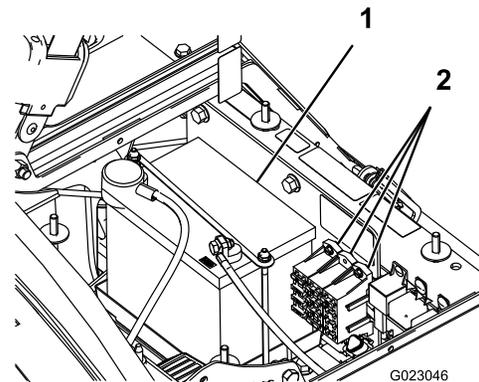

Figure 49
There are 2 fuse blocks and 1 empty slot in the electrical system. They are located beneath the seat (Figure 49).
- The battery is located on the right side of the machine behind the pump (Figure 49).
- Remove the battery retainer and fasteners (Figure 49).
- Install the battery retainer and secure it with the fasteners you removed previously (Figure 49).
- Install the battery cover and secure it with the 2 knobs (Figure 49).
- Loosen the knobs on the sides of the battery box and remove the battery cover (Figure 49).